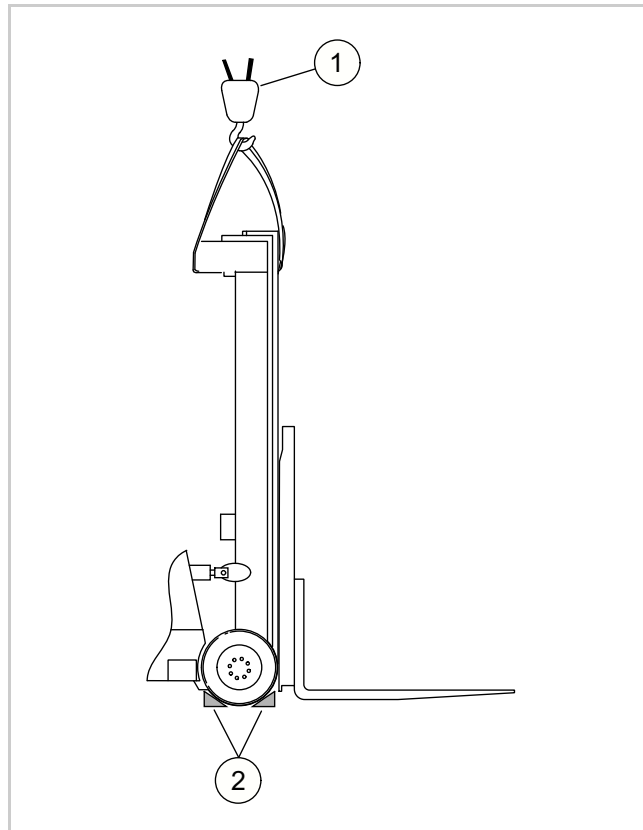
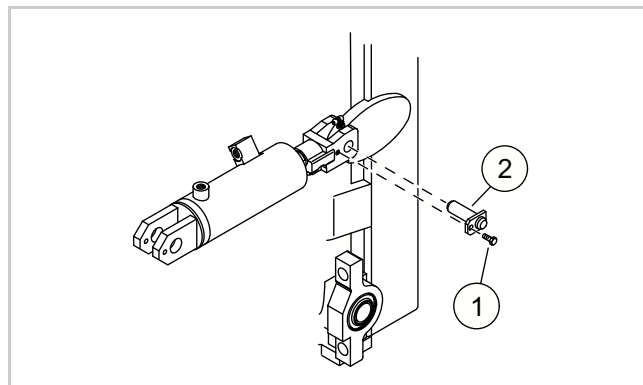

Fig. 8 (34437)
Fig. 9 (34438)
6. See Figure 8. Put the chocks (2) against the wheels.
7. Attach a sling and an overhead lifting device (1) to all cross members of the mast to prevent movement of the mast when the tilt cylinders are disconnected.
8. See Figure 9. Remove the screws (1) and the pins (2) that connect the tilt cylinders to the mast.